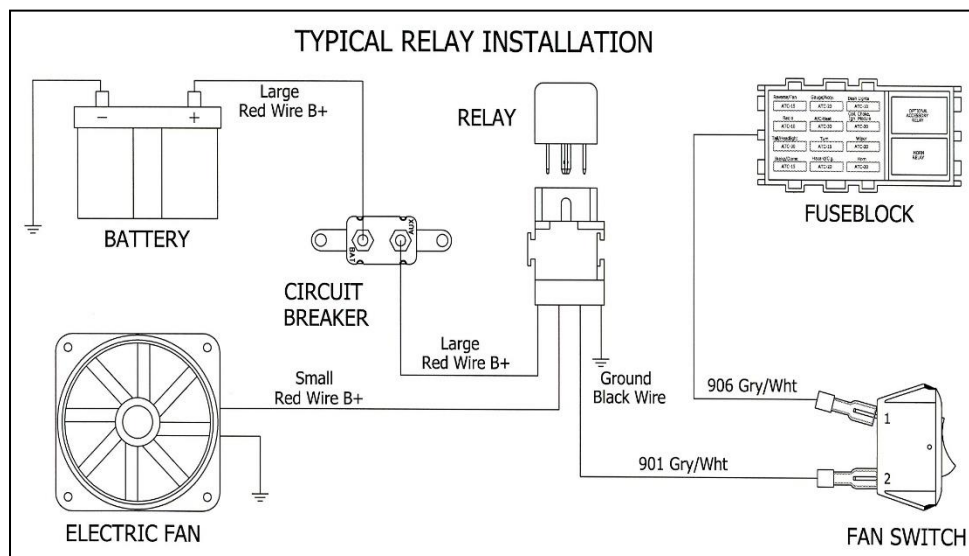

Figure 8-3C Typical fan relay installation
- 8.3.4** Connect HEADLIGHT SECTION A wire #901 (GRY/WHT) to the Electric Fan Relay. This wire is an activation wire for the relay, **NOT A POWER FEED**. The other end of wire #901 is in the ACCESSORY SECTION SWITCHES and should be connected to a electric fan switch in the dash. Connect 906 (GRY/WHT) from ACCESSORY SECTION B+ to the other side of the fan switch. **Figure 8-3C** shows a typical fan relay installation.